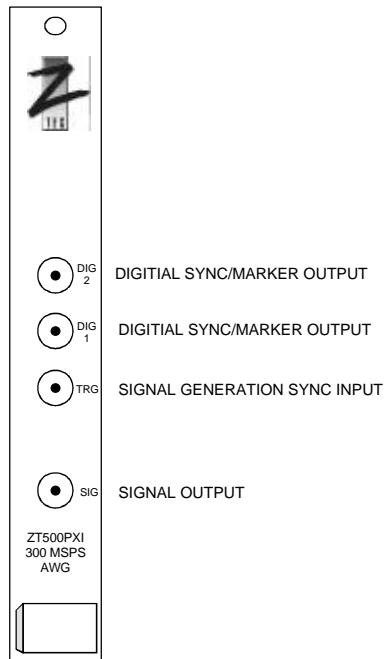

Figure 1-1 Front panel of the ZT500PXI
- **FRONT PANEL:** See Figure 1-1 for front panel drawing.
A diagram of the ZT500PXI front panel is shown in Figure 1-1. On the front panel, there are four SMB coaxial connectors. Table 1-1 lists the connector functions.